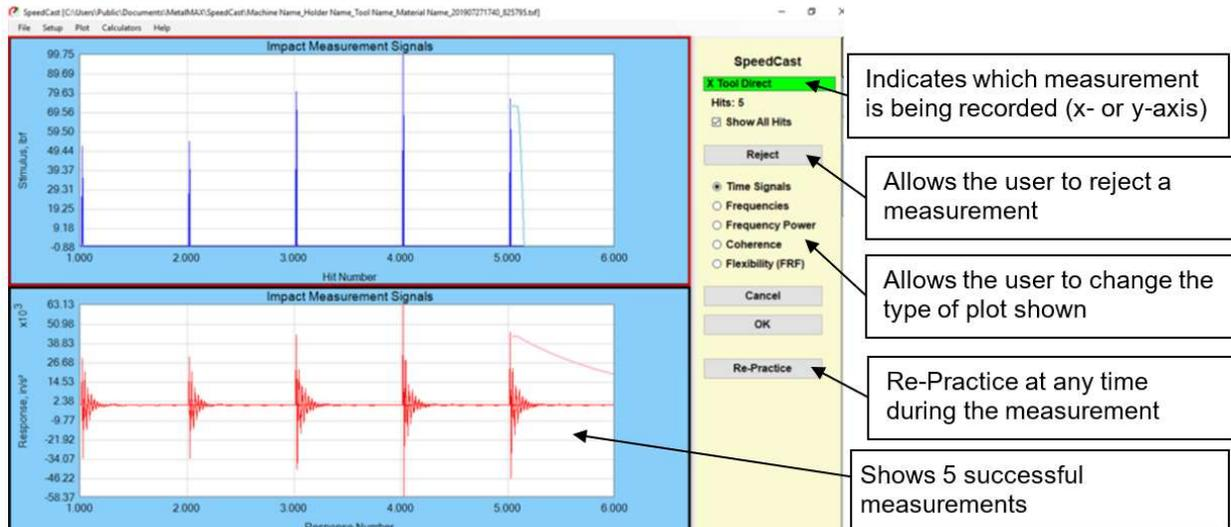

Figure 21: Measure
**Trap Overloads:** Will signal the user if the impact force level or the response of the accelerometer is above the voltage in set in the Signal Range box, see Figure 21.
**Trap Underloads:** Will signal the user if the impact force level or the response of the accelerometer is below the voltage in set in the Signal Range box, see Figure 21.